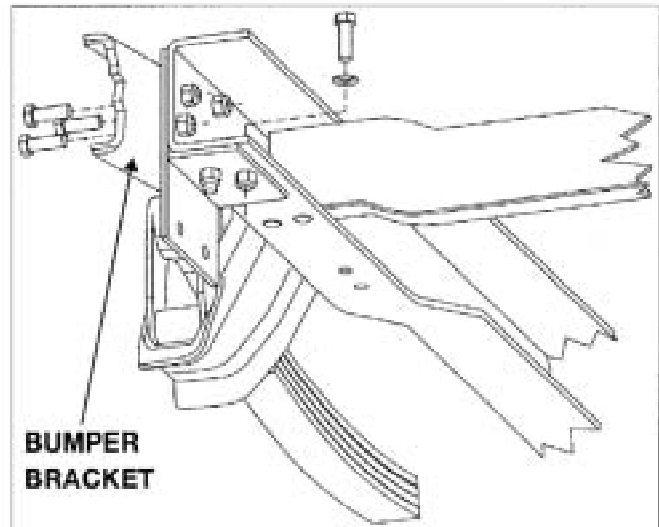

Figure 4
8. Install bumper with bumper brackets outside of rear subframe mount brackets. Align holes and secure using 1/2-13x1-1/2" bolts and locknuts (3 per side). See Figure 4.